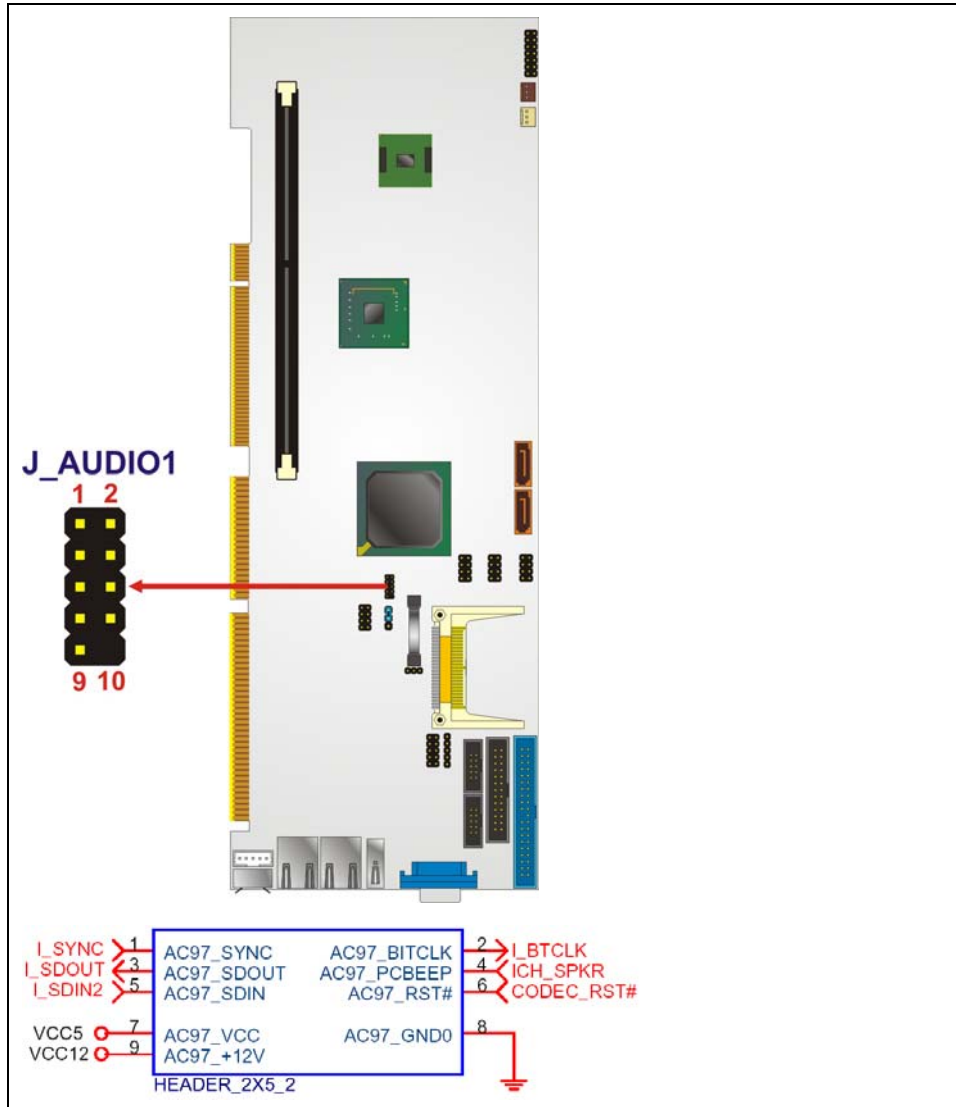

Figure 4-3: Audio Connector Location (9-pin)
- CN Location:** See Figure 4-3